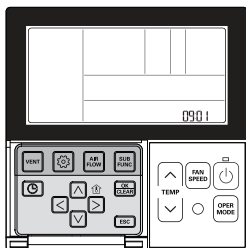

figure 1.
* If selected as the operation 'slave', it displays in the remote controller screen as shown in figure 1.